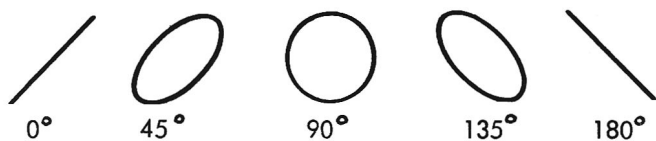

Fig. 3
**LISSAJOUS PATTERNS:** Another type of fundamental pattern is obtained when both the vertical and horizontal deflection voltages are sinewaves that are related in frequency as follows: one frequency is a whole number of times larger than the other; one frequency is a simple fraction of the other. When one or the other of these conditions is fulfilled, stationary closed-loop patterns are obtained. These patterns are called Lissajous figures after the 19th century French Scientist. They are particularly useful in determining the frequency ratio between two sinewave signals. If the frequency of one signal is known, the frequency of the other signal can be easily determined from the frequency ratio. Usually the known signal is applied to the horizontal channel and the unknown signal to the vertical channel. The shape of the pattern changes with the phase relationship between the known and unknown signals. For example, all the patterns shown in Fig. 3 (and those intermediate) are possible with a frequency ratio of 1:1 if the phase differences indicated exist.